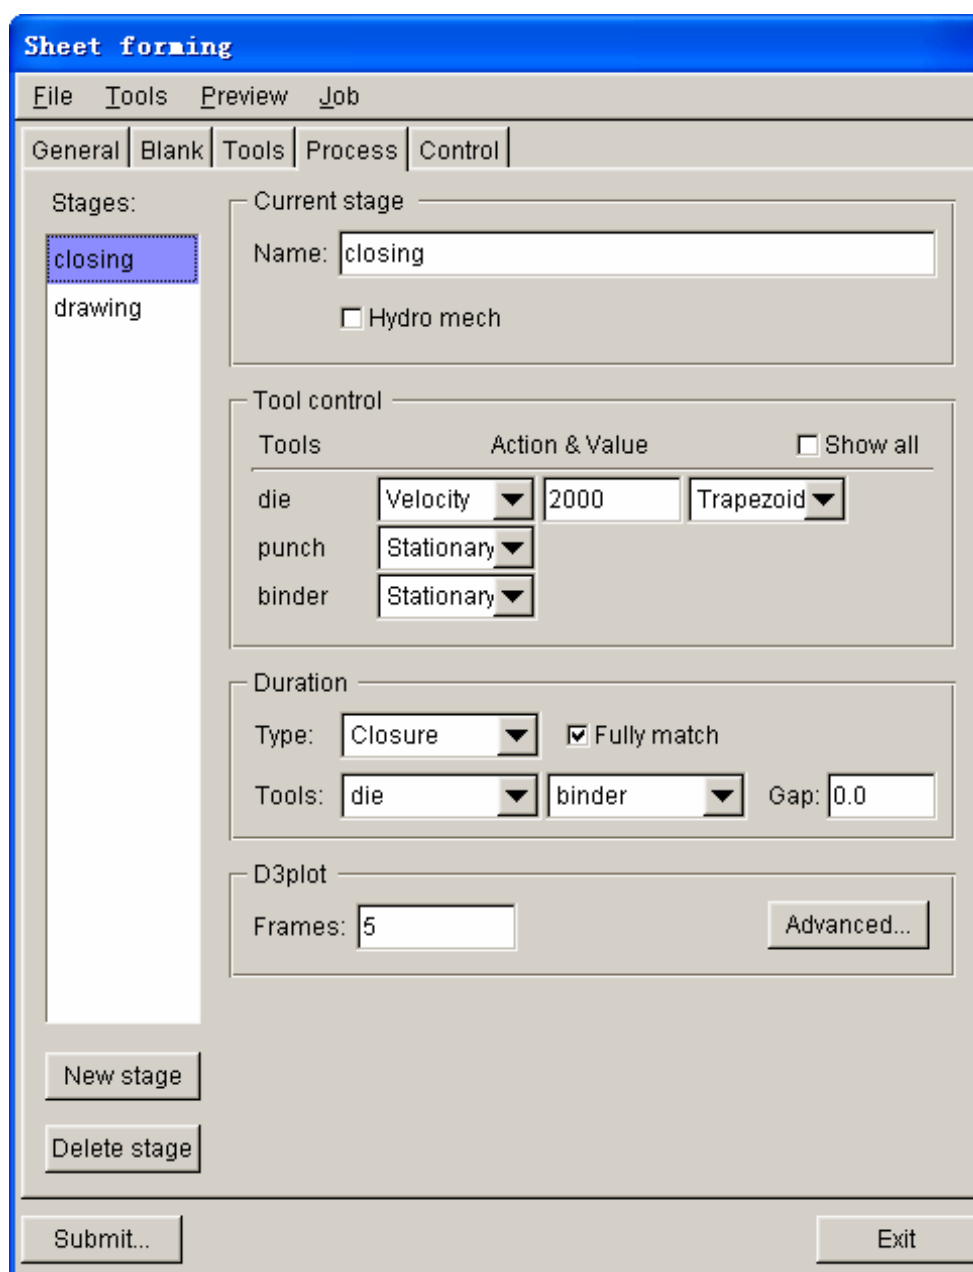

Figure 1.34 Closing process interface
1. Select **closing** process from the list located at left side of the interface as the current process. See Figure 1.34.
2. Verify the default setting of **closing** stage is similar to Figure 1.34.